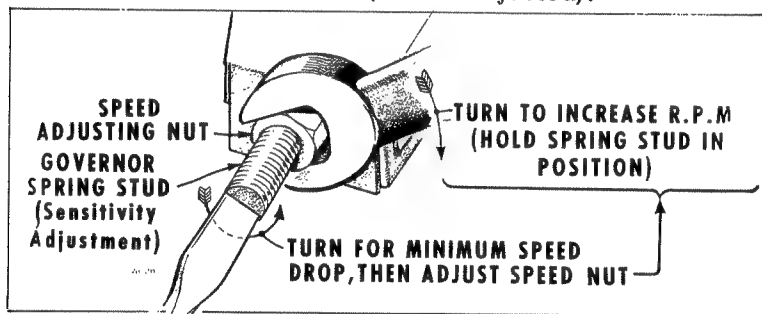

Fig. 19 Governor Adjustments
**Speed Adjustment** - Change spring tension by holding the governor spring stud and turning the nut to adjust engine speed (fig.19). More spring tension (turning nut clockwise) increases rpm. Turn nut counterclockwise to decrease governed speed. Hold a tachometer against the stud in the axis of the generator. On revolving armature generator, adjust the engine speed to attain proper voltage with load connected and using a voltmeter.
**Sensitivity Adjustment** - Adjust for minimum speed drop without a hunting condition. If the speed drops too much when full load is applied, unscrew the governor adjusting stud (fig. 19) to use more coils of the spring. Hold the stud and turn the speed nut slightly for more spring tension to compensate for reduced rpm caused by making more coils operative. A too close sensitivity adjustment (approaching no speed drop when load is applied) will result in a hunting condition (continuous change of speed).